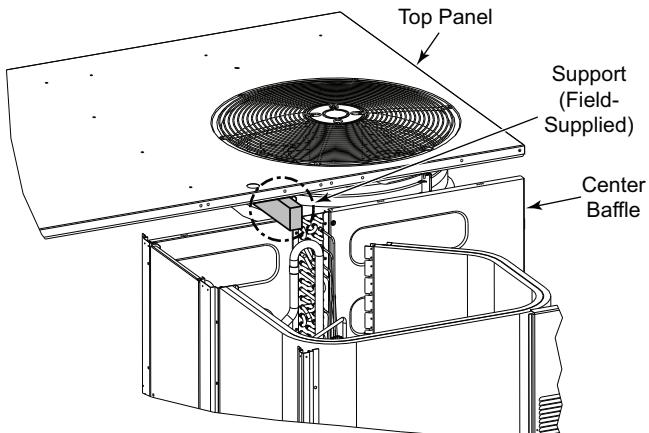

Fig. 18 – Top Panel Position
3. Lift and rotate the top panel at the condenser fan end and rotate the panel 90 degrees. Support the top panel so it remains level while resting on the condenser fan as shown in Fig. 18.